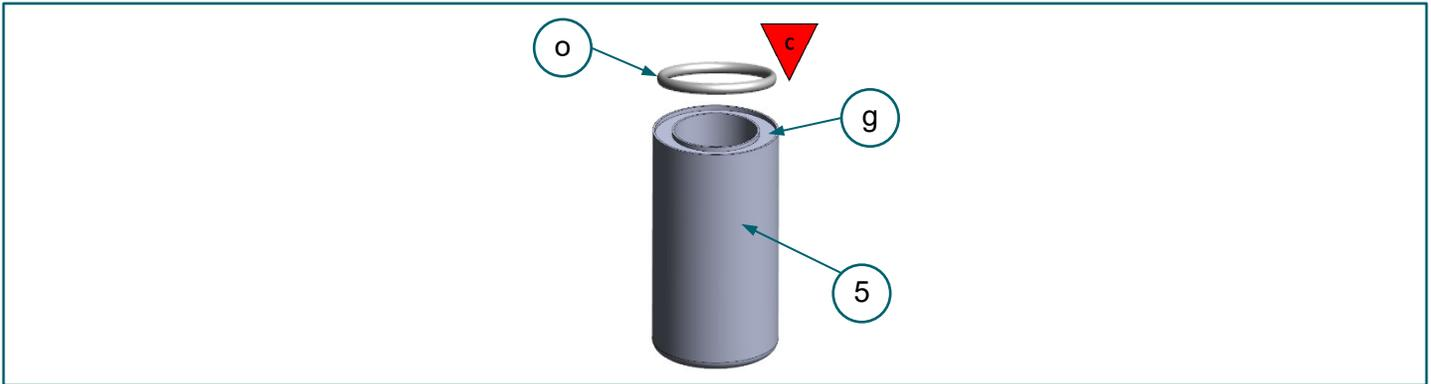

FIGURE 3-5. (5) HP fuel filter bowl, (o) O-ring, (g) groove
5. Clean and inspect (3) HP fuel filter head threads (*not visible*) at location (t) for debris, cross-threading, burrs, etc. *If HP fuel filter head threads are damaged, obtain replacement HP fuel filter assembly from Hexagon Agility® CCTS.*
6. Install retrofit kit (o) O-ring, in (5) retrofit kit HP fuel filter bowl (g) groove. **FIGURE 3-5**